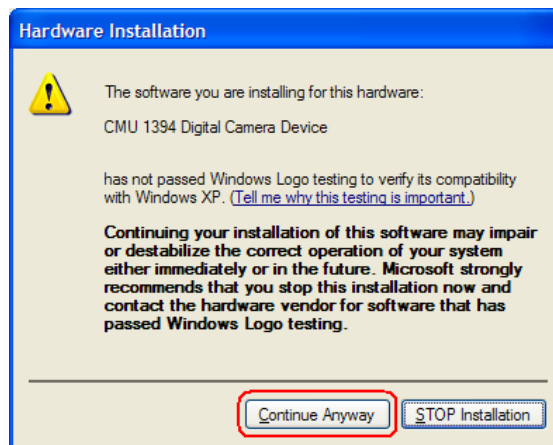

Figure 3.13 Windows Logo Compatibility Bypass
- f. Continue Anyway when warned that the driver is not digitally signed (**Figure 3.13**).